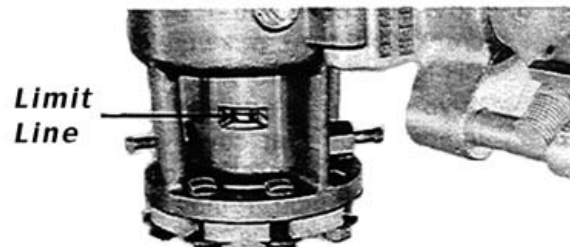

FIGURE 14
14. Check completion of cut by releasing automatic feed and attempting to advance cutter by rotating feed crank **counter-clockwise** (**clockwise** on CH-6). If it does not advance easily, the cut is not completed, and automatic feed knob must be pushed in for further cutting (pulled out on CH-6). **CAUTION: STOP ADVANCING THE BORING BAR WHEN THE LIMIT LINE ON THE BORING BAR BECOMES VISIBLE THROUGH THE DRIVE BOX DRAIN HOLE. Figure 14.**